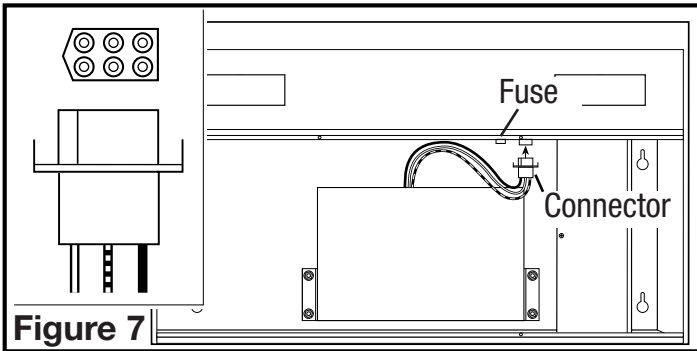

Figure 7
3. Plug the blower connector into the port on the front wall of the blower compartment. It will fit only one way (Figure 7).
- To replace the fuse, turn the fuse cap located next to the wire connector counter clockwise and pull out. Replace with only a 125-Volt fuse, 3 Amp Max. Reinstall the fuse back into the hood (Figure 7).